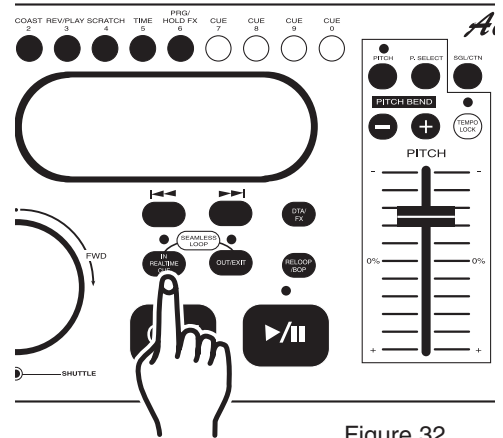

Figure 32
- 2) Press the *IN REALTIME CUE BUTTON* (26) at the point you want your BOP to take place (Figure 32).